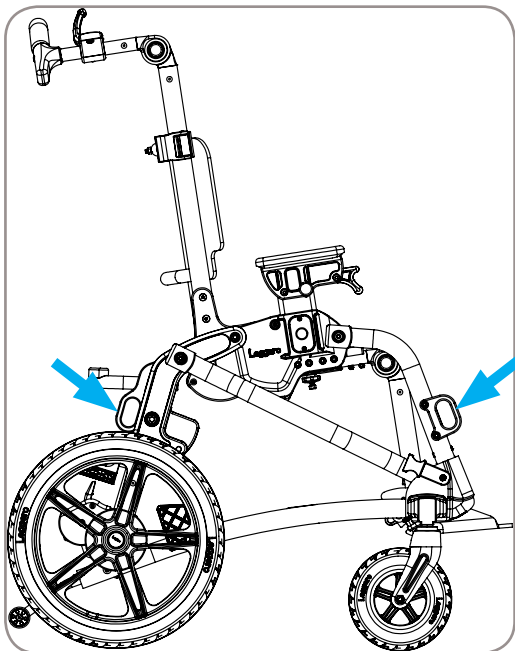

Figure 27
- For approved transit tie-down locations and location of belt/harness attachment pin, see Figures 27 and 28.